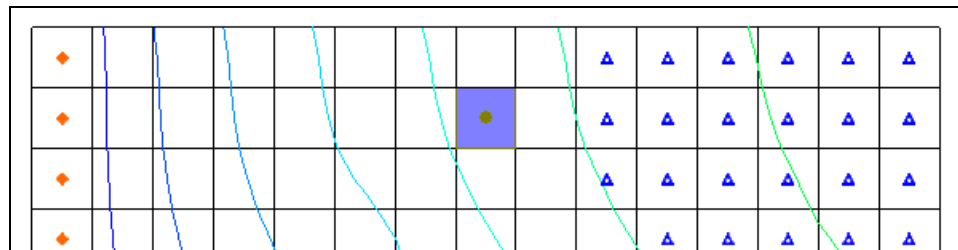

Figure 9 New DRT point
1. Using the **Create Point**  tool, create a point in the cell at row 2 column 8 (the cell is highlighted in purple in Figure 9).